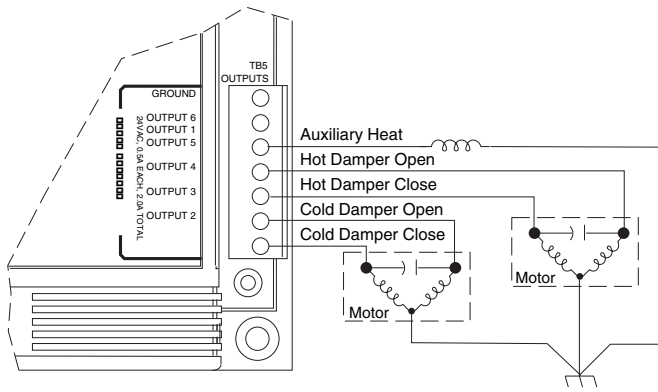

Figure 7. Output Connections
1. Connect one lead of the load to TB5-1 through TB5-5 (Output 1 through Output 5) as shown in Figure 7.